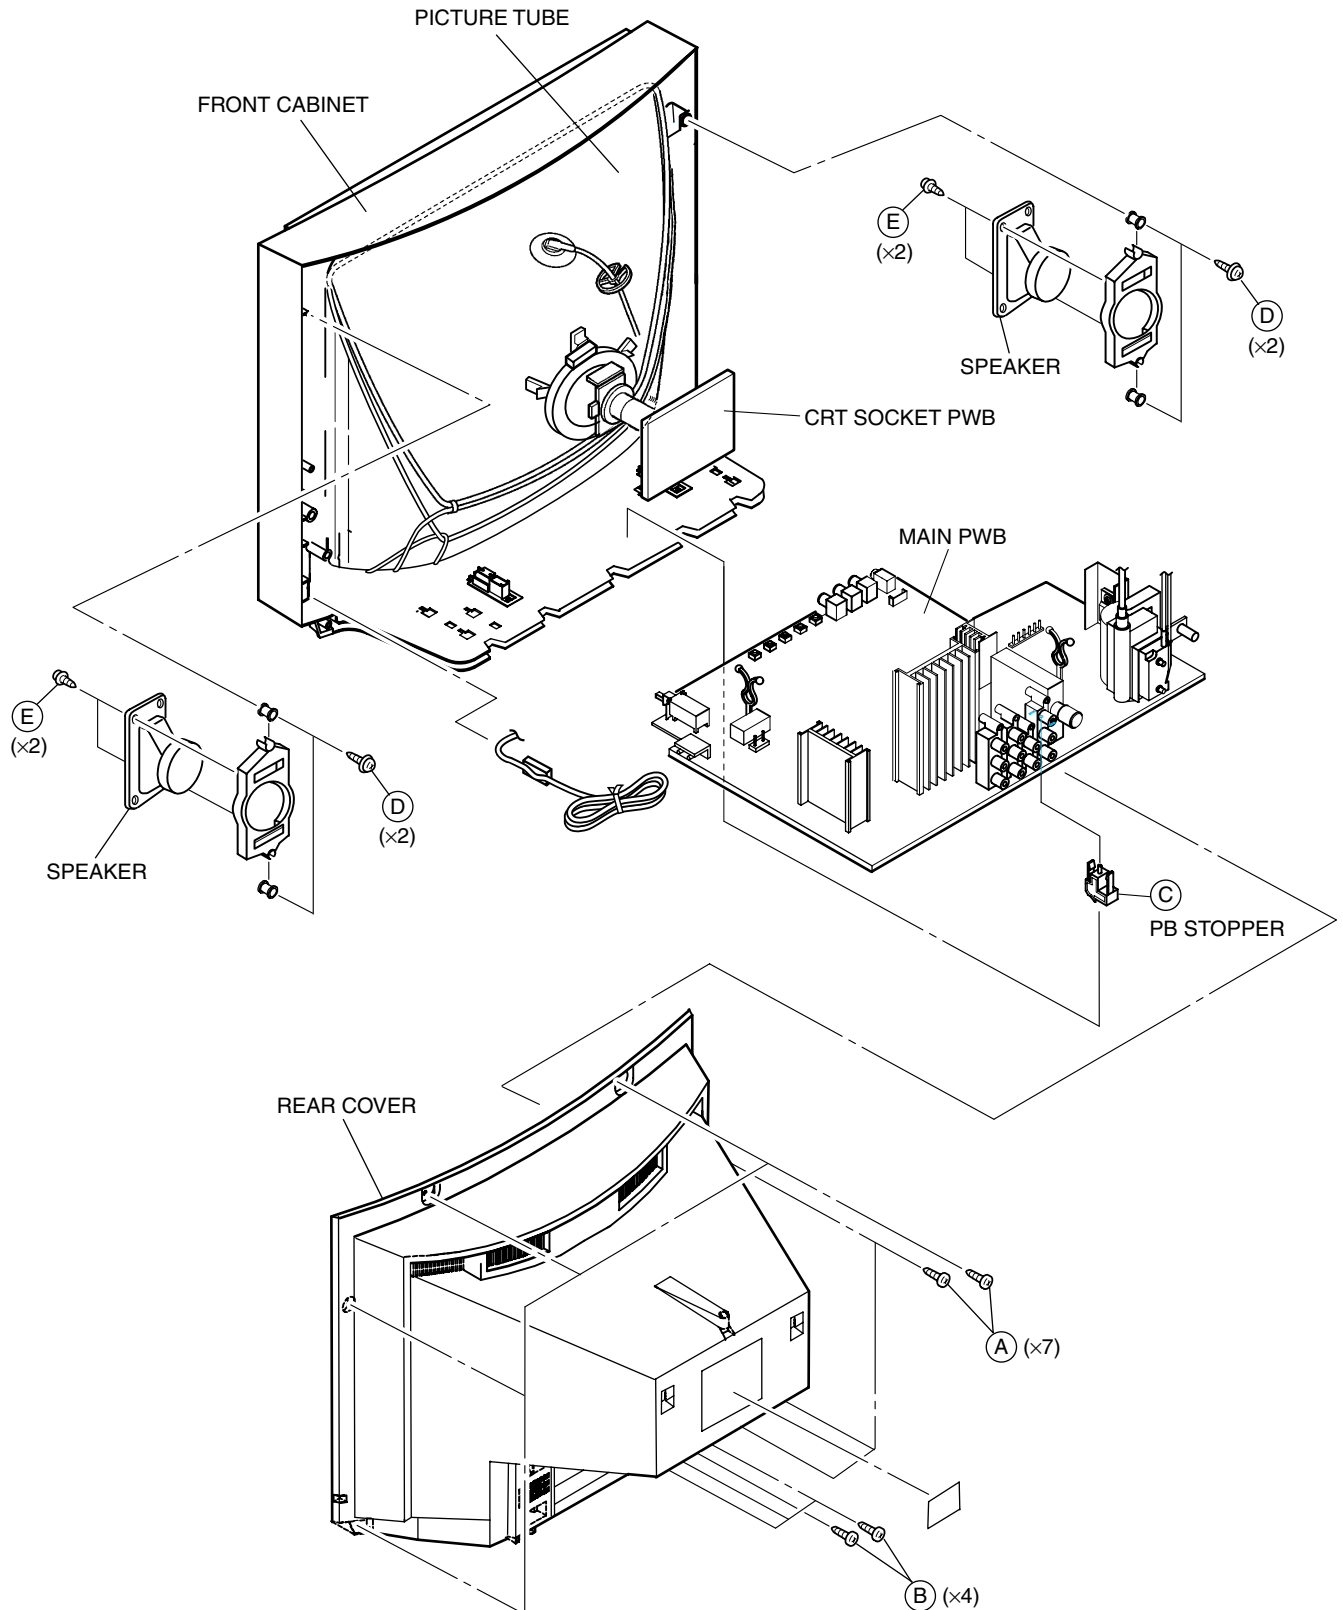

Fig.1
1. Remove the 2 screws marked (D) and 2 screws marked (E) as shown in Fig.1.